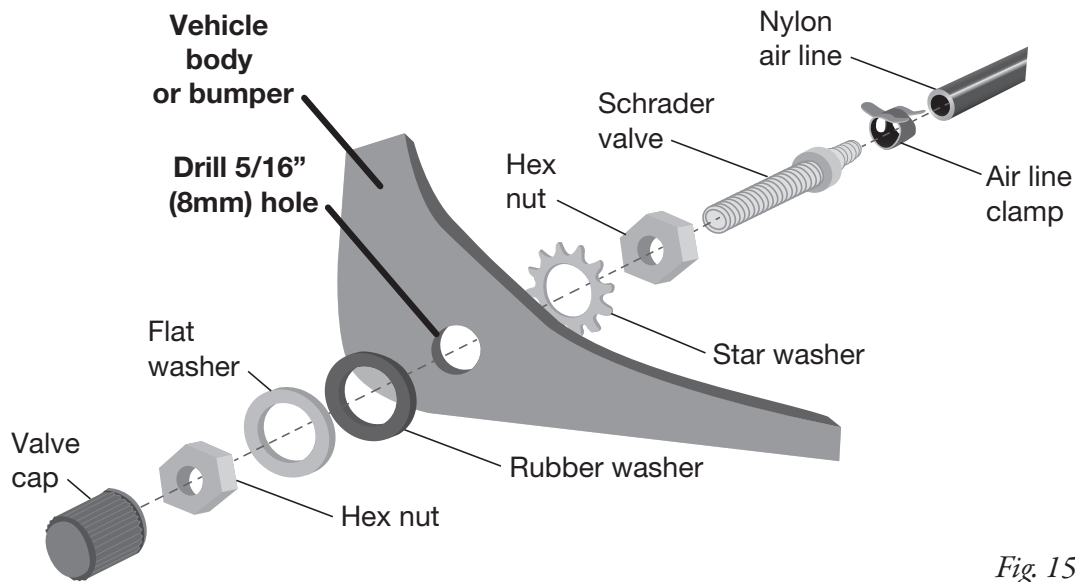

Fig. 15
- Drill a 5/16" (8mm) hole for the Schrader valve (K) and mount as shown (Fig. 15). Install the air line on the Schrader valve first. The rubber washer serves as an outside weather seal.